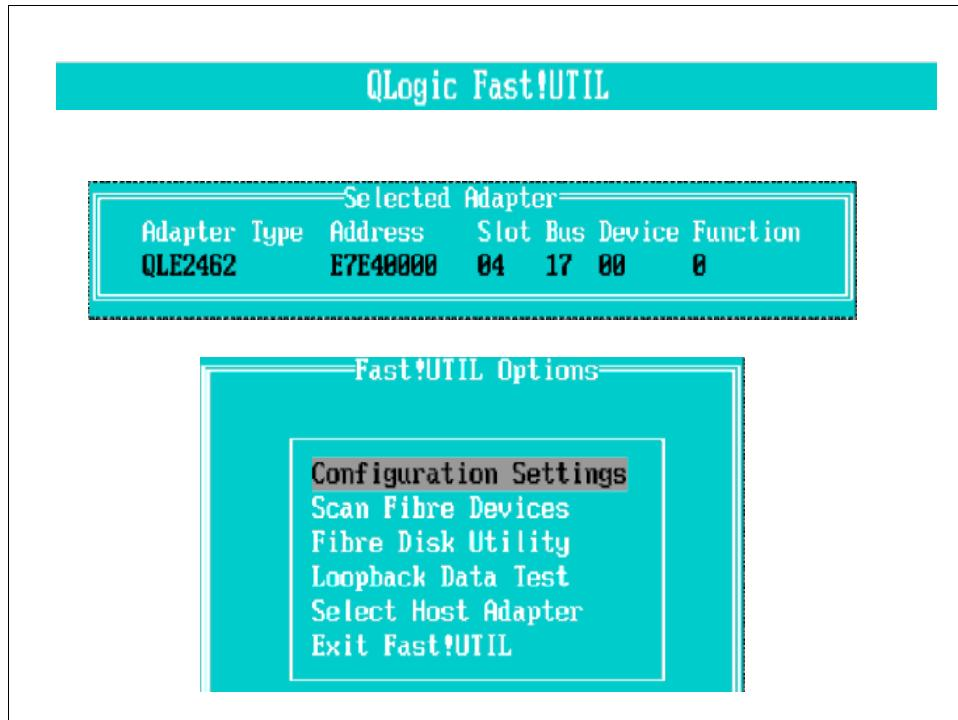

Figure 18-24 Configuration settings for QLE2462 adapter panel
4. Select **Configuration Settings** and press Enter as shown in Figure 18-24.